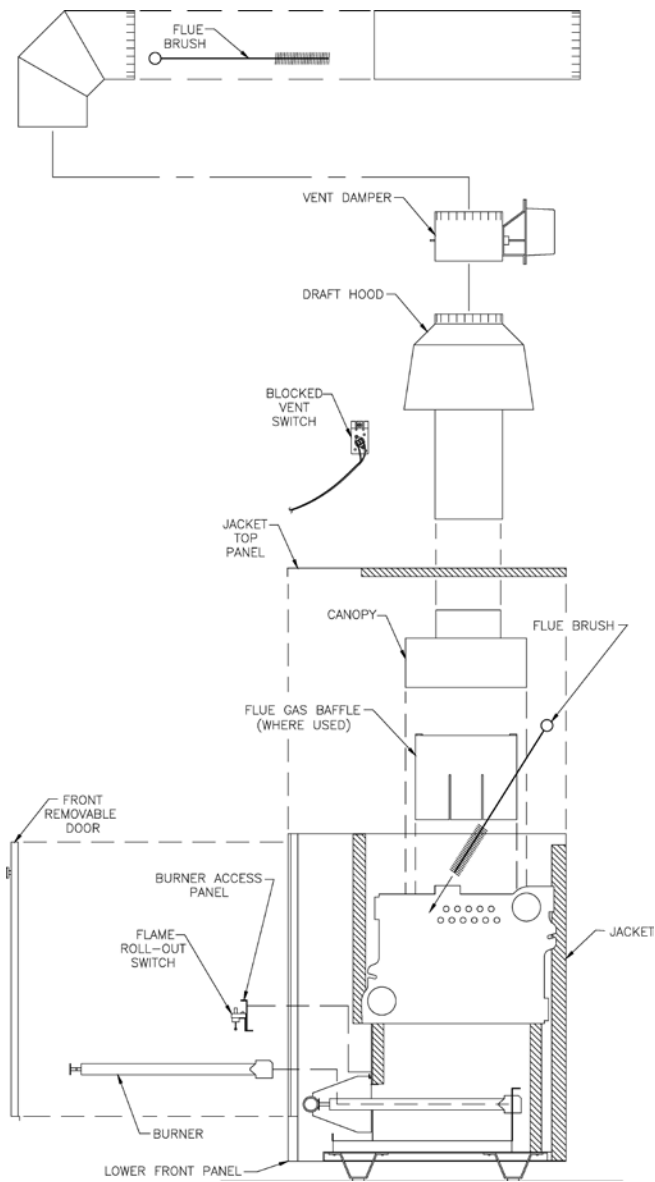

Figure 22: Flueway Cleaning
- C. Inspect Vent System.** See Figure 22.
- D. Inspect Boiler Flue Passages** for blockage or soot accumulation. See Figure 22.
flueways thoroughly from top of boiler as illustrated in Figure 22. Replace canopy and seal.